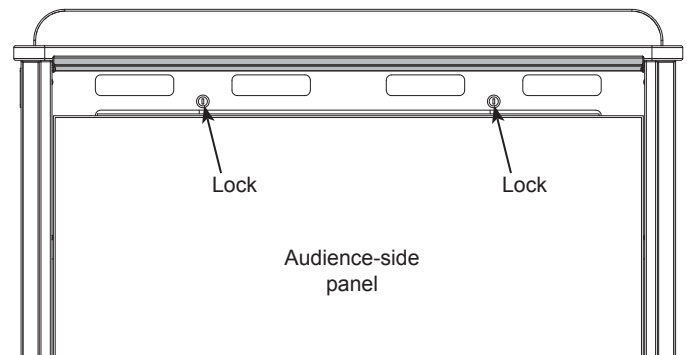

Figure 3B
2. Unlock both locks while supporting the audience-side panel. **Figure 3B.**